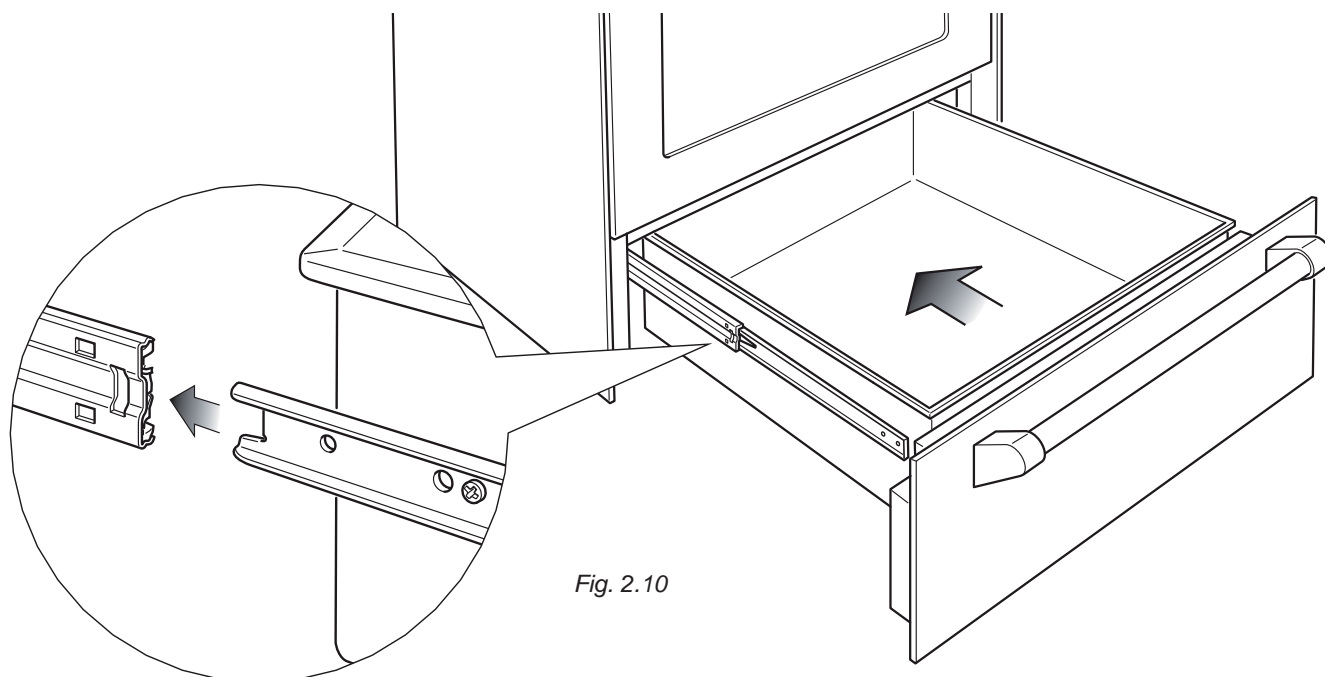

Fig. 2.10
### Fitting the warming drawer (fig. 2.10):
1. Insert the drawer guides into the range guides (fig. 2.10).